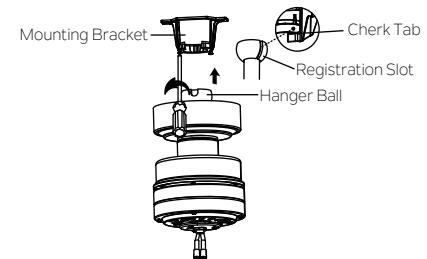

Fig. 9
Step 5. Now lift the motor body into position and place the hanger ball into the mounting bracket. Rotate until the "Check Tab" has dropped into the "Registration Slot" and seats firmly. (Fig. 9) The entire motor body should not rotate if this is done correctly.